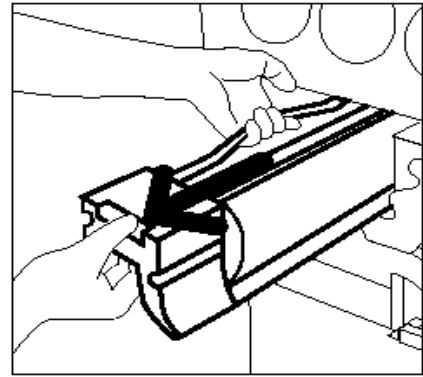

Figure 42: Removing the Copy/Print Cartridge and grasping the Strap
- 3 Grasp the Copy/Print Cartridge gold handle release with your right hand and push up to release the latch, as illustrated in Figure 42. Pull the cartridge out slowly until the strap on top of the Copy/Print Cartridge is visible.
- 4 Grasp the strap with your left hand and remove the cartridge completely out of the copier/printer, as illustrated in Figure 42.